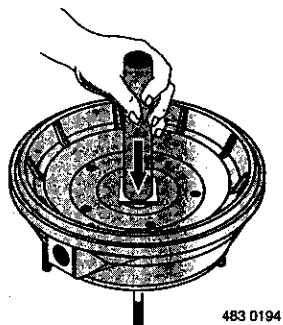

**Figure 6**
4. Place back half of pump on flat surface and tap out ceramic seat. See Figure 6.